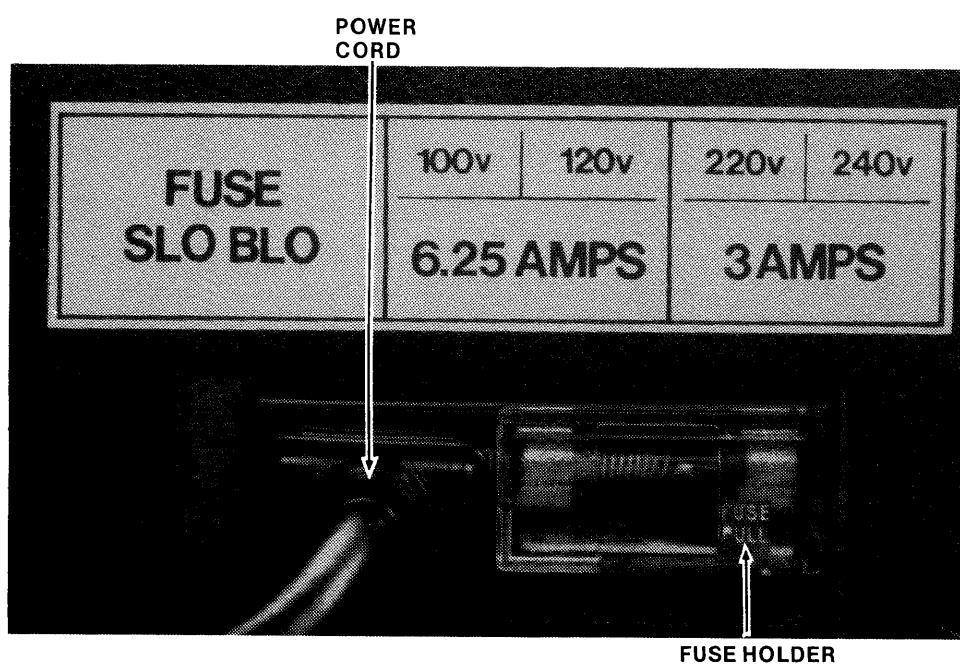

Figure 2-13. Power Cord and Fuse Holder
17. Refer to Figure 2-13. Slide the plastic shield on the main power socket to the left, remove the voltage switching card, and make sure it is inserted correctly for your line voltage. Since the card accommodates four primary voltages, insert it so that you can read your voltage with the card installed. Check the voltage stickers on the disk drive(s). If this rating differs from the factory voltage switching card setting, contact your Intel representative. Check the rating on the installed fuse. Be certain it matches the ratings listed on the sticker directly above the fuse holder. After you have checked the voltage switching card and the fuse, slide the plastic cover back and reconnect the AC power cord.